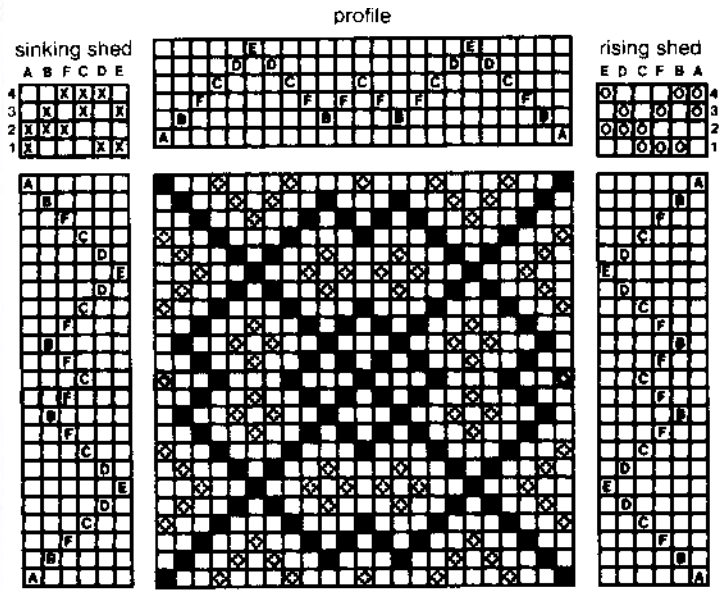

FIGURE 7
**Treading.** The entire block development of the pattern, including the treading profile and the tie-up is shown in Fig. 7. The cloth is woven as the blocks are drawn in. Thus the treading profile is the same as the threading profile.
The cloth is woven on opposites. The treading blocks of Fig. 7 are woven as follows: